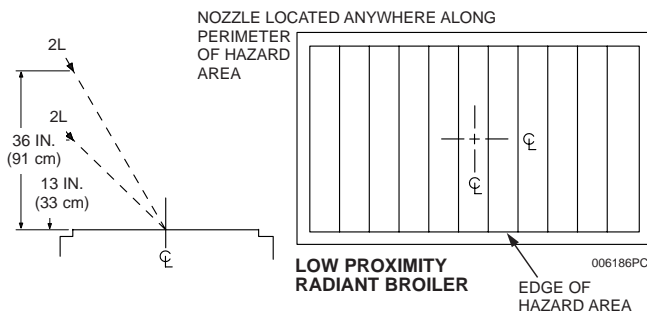

Figure 3-11b.
The 2L nozzle, Part No. 551027, is used for low proximity radiant char-broiler protection. This nozzle is a two (2) flow nozzle. The nozzle must be located **anywhere on the perimeter** of the hazard surface, 13 in. to 36 in. (33 to 91 cm) above the cooking surface of the appliance and aimed at the center of the broiler surface. See **Figure 3-11b**.